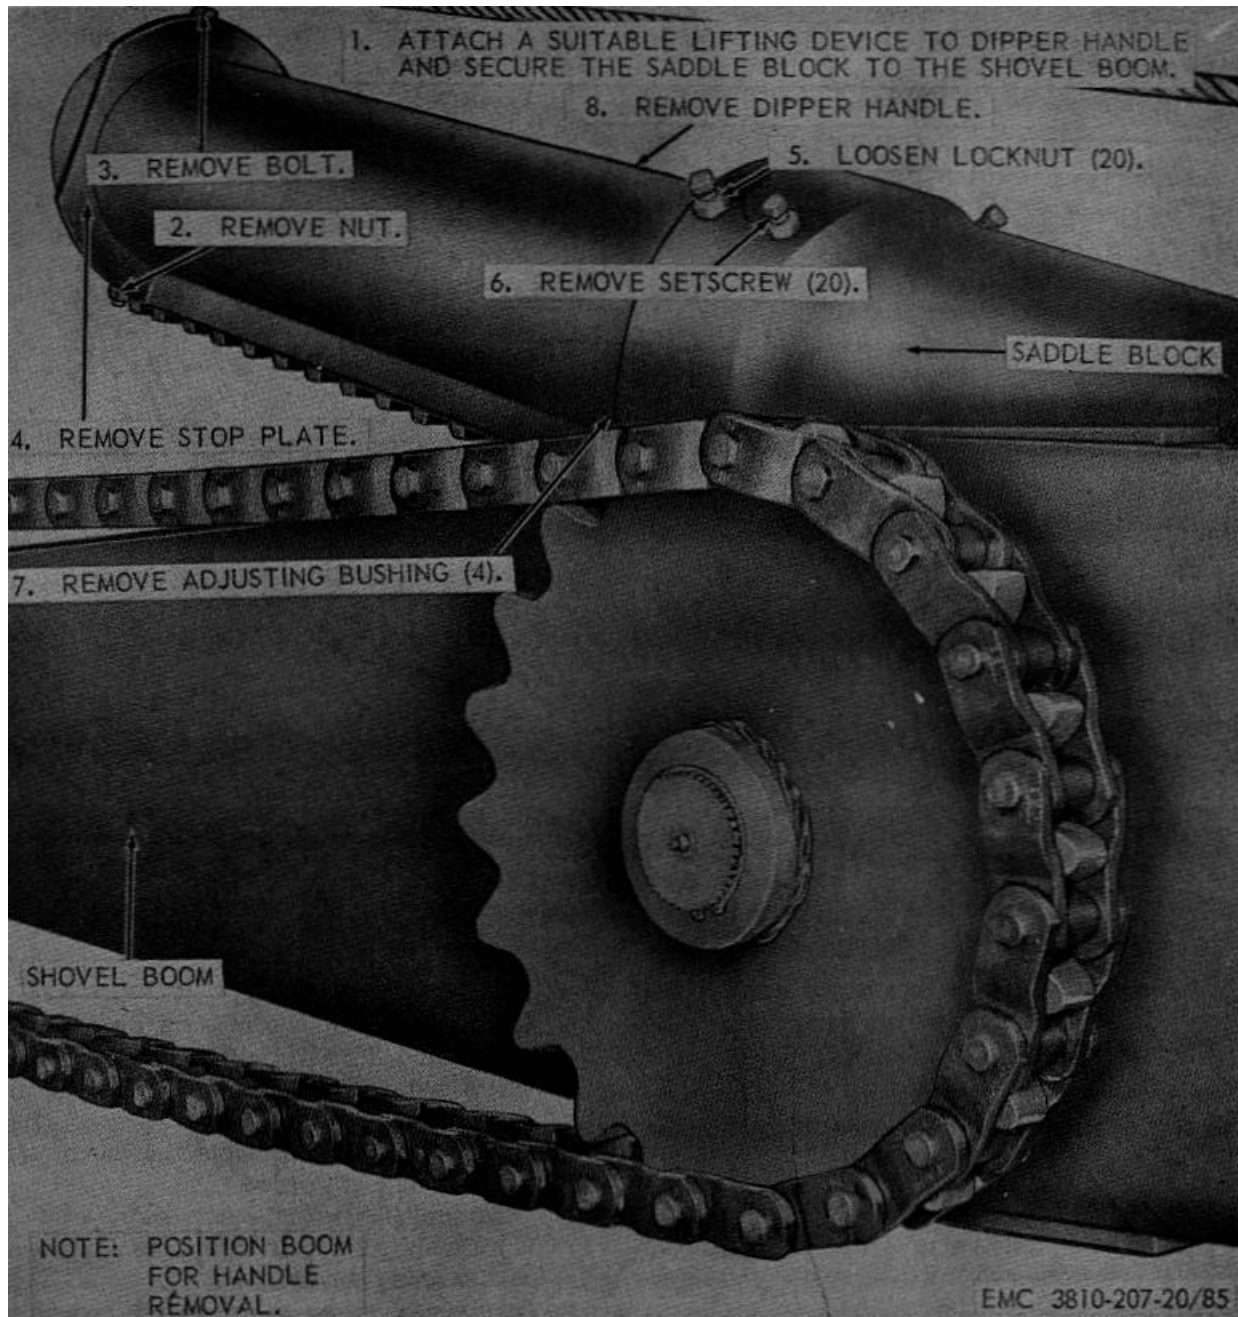

Figure 85. Dipper handle, removal and installation.
- (1) Remove all reeving from shovel front attachment (TM 5-3810-207-10).
- (2) Remove the shovel dipper (par. 158).
- (3) Remove crowd chain from boom (TM 5-3810-207-10).
- (4) Remove the dipper handle as instructed on figure 85.
- (1) Install the dipper handle as illustrated on figure 85.
- (2) Install crowd chain on boom (TM 5-3810-207-10).
- (3) Install shovel dipper (par. 158).
- (4) Install all cable reeving to shovel front attachment (TM 5-3810-207-10).